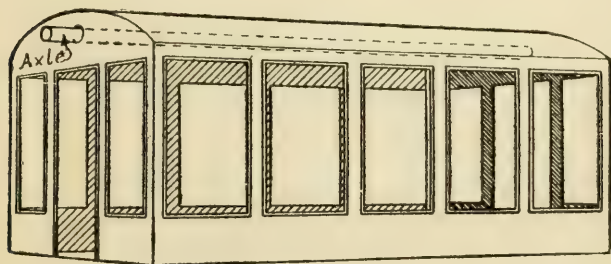

FIG. 277.— A Completed Car for the Ferris Wheel.
In folding and gluing the cars, slip the flaps inside and bend the roofs so they will follow the curve of the ends (Fig. 277).
**The Axles** from which the cars are hung (Fig. 277). Great care must be used in fastening them between the rims, for they are easily split, and the best way to do is
to start a hole first in the ends of each axle with an awl, or by driving a brad part way in and then withdrawing it; then drive a brad through each spoke of one rim into an axle (Fig. 275); slip the other ends of the axles through the holes in the ends of the cars (Fig. 277), and nail the spokes of the other rim to them.